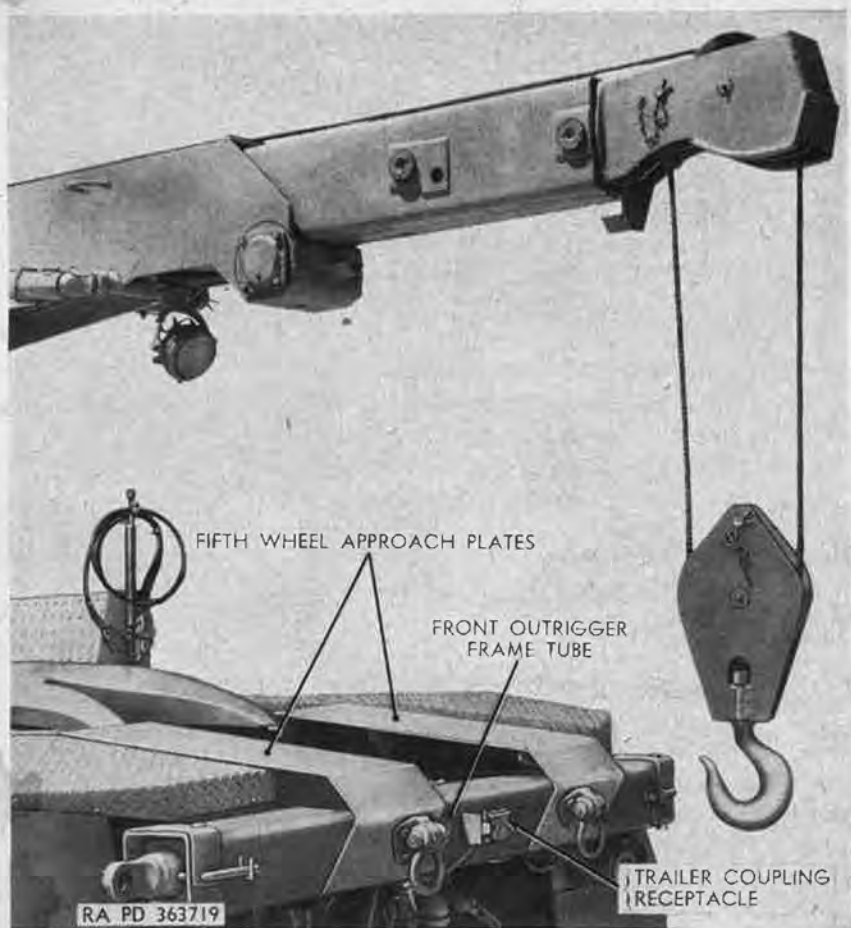

Figure 318. Front view of right front corner of crane body M246.
- (6) Remove trailer coupling receptacle (fig. 318) from bracket attached to front outrigger frame tube (par. 161).
- (10) Remove six cap screws and lockwashers, located under fifth wheel approach plates (fig. 318), three on each side, securing front of crane body to truck-frame side rails.
- (11) Attach a chain sling and overhead hoisting equipment to crane body, and remove body from vehicle.
- (1) Using a chain sling and overhead hoisting equipment, lift crane body into position on truck-frame side rails, and align mounting holes.
- (2) Install six cap screws and lockwashers under fifth wheel approach plates (fig. 318) in holes in crane-body side rails and truck-frame side rails. Tighten cap screws.
- (6) Install trailer coupling receptacle (fig. 318) at bracket attached to front outrigger frame tube (par. 161).
a. *Description.* The fifth wheel assembly, which is mounted on the rear of the chassis of the tractor truck M52 and on the front of the crane body of the tractor wrecker truck M246, consists of the fifth wheel (figs. 86 and 319), approach plates (figs. 318 and 320), and cen-